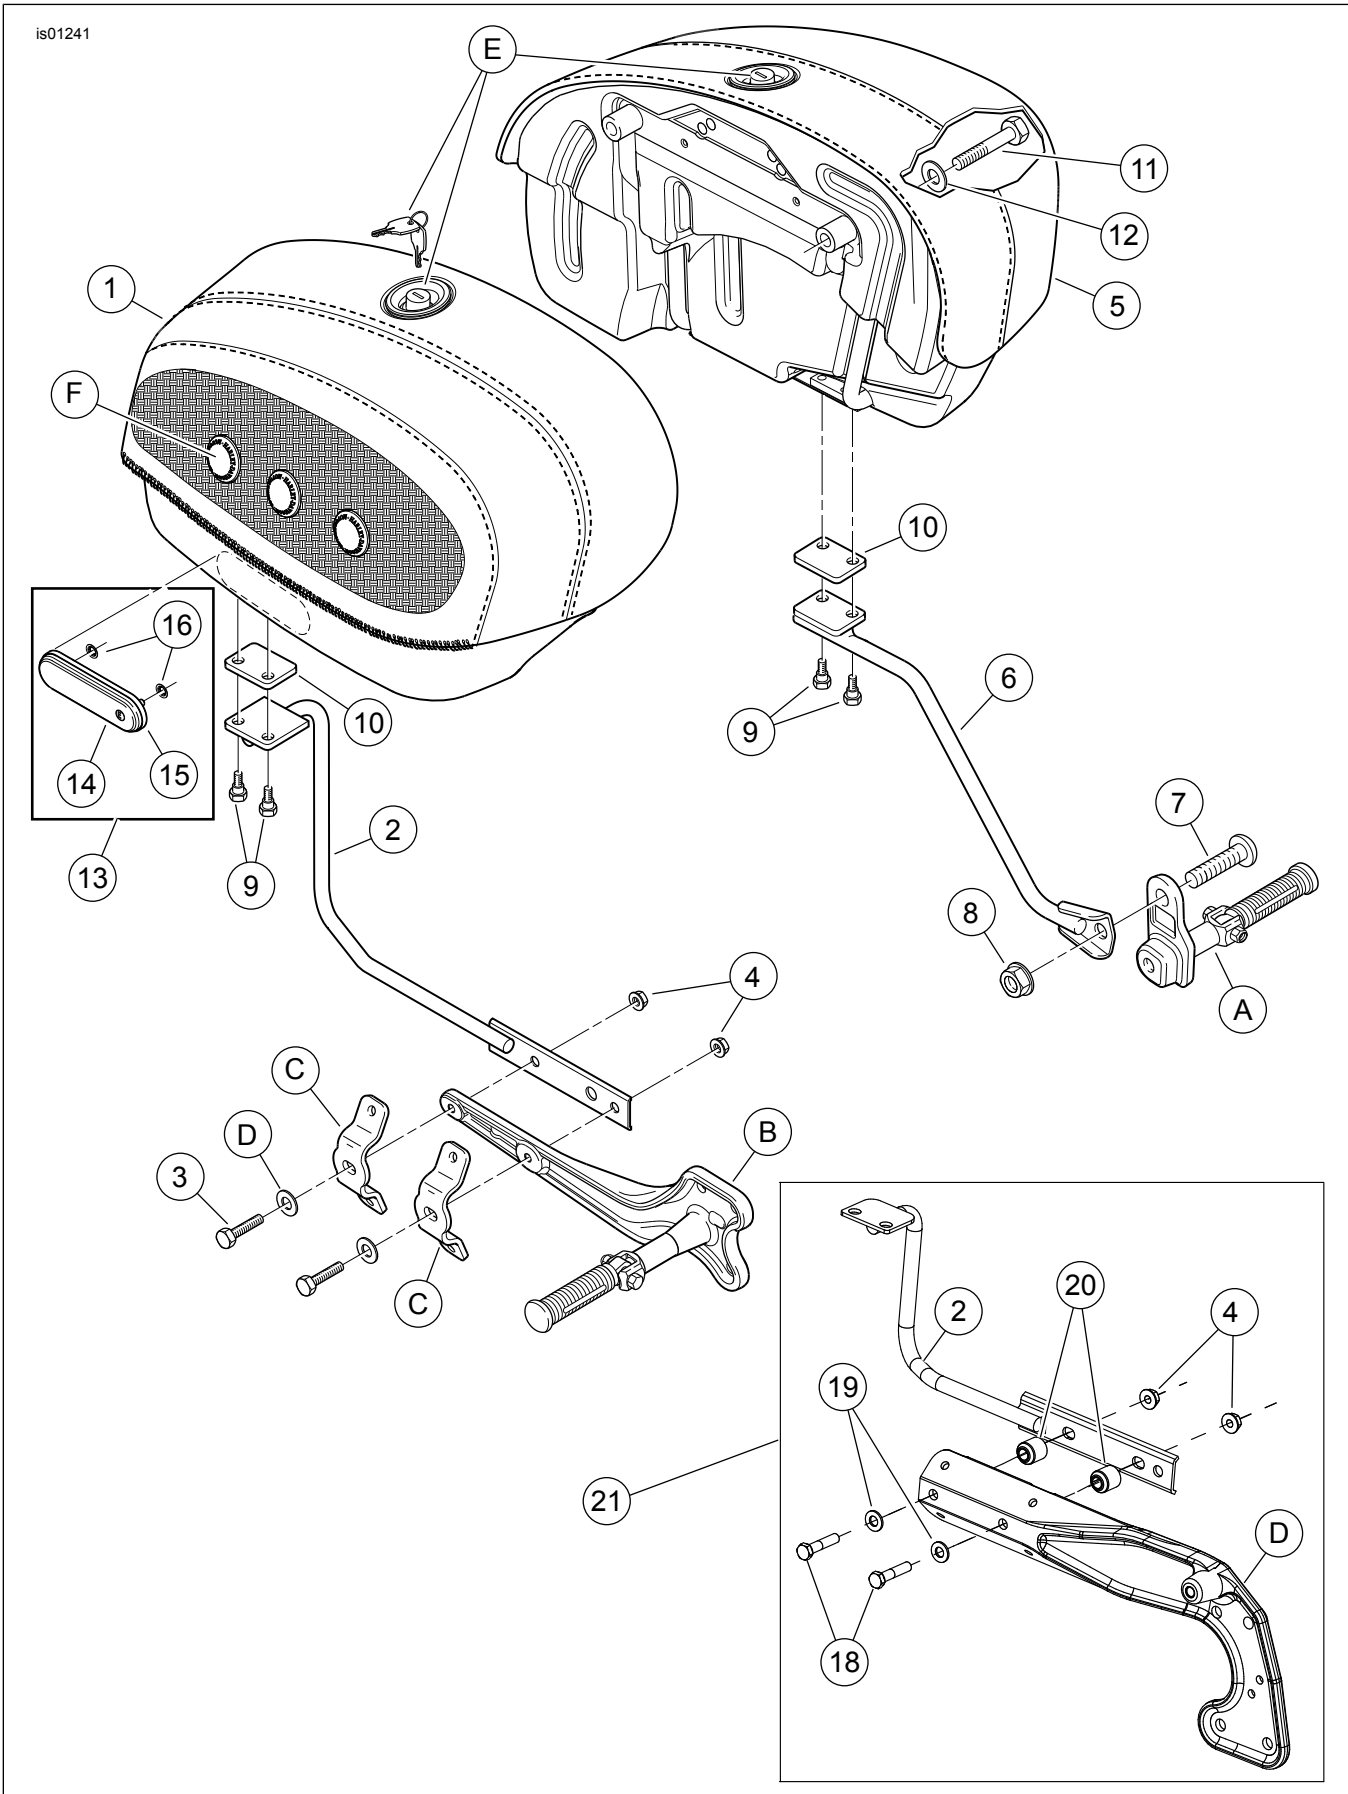

Figure 6. Service Parts, FLSTN Saddlebag Kit (2007 and later FLSTN shown in box)
1. See Figure 6. Obtain the following items from the kit:
- a. The lower right-side saddlebag support (2)
- b. Two 1-1/2 inch (38 mm) long hex head screws with lock patch (18)
- c. Two flat washers (19)
- d. Two smaller diameter flanged hex locknuts (4)
- e. Two spacers (20)
2. See Figure 6. Obtain the following items from the kit:
- b. two 2-1/4 in. (57 mm) long hex head screw (11), and
- c. two flat washers (12).
3. Place one of the washers (12) over the threads of one of the the new screws (11) from the kit. Insert the screw through one of the mounting holes in the saddlebag.
6. Obtain two shoulder bolts (9), and one isolator pad (10) from the kit.
9. Tighten the hex head screws (11) that attach the saddlebag to the rear fender to 21-27 ft-lbs (28.5-36.6 Nm).
- b. two flat washers (12).
4. Place one of the washers (12) over the threads of one of the fender attaching screws. Insert the screw through one of the mounting holes in the saddlebag, and place the appropriate docking hardware (front or rear) removed earlier over the screw threads.
7. See Figure 6. Obtain two shoulder bolts (9), and one isolator pad (10) from the kit.
10. Torque the hex head screws (11) that attach the saddlebag to the rear fender to 21-27 ft-lbs (28.5-36.6 Nm).
1. See Figure 6. Verify that the bolt (9) shoulders are not pinching the isolator pad (10) to the underside of the saddlebag, then tighten the bolts to 18-20 ft-lbs (24-27 Nm). Repeat for the opposite side.
2. Tighten the two 5/16-18 flanged hex lock nuts (4) holding the right side lower saddlebag support (2) to 15-19 ft-lbs (20.3-25.8 Nm).
3. Tighten the 3/8-16 flanged hex lock nut (8) holding the left side lower saddlebag support (6) to 15-19 ft-lbs (20-26 Nm).